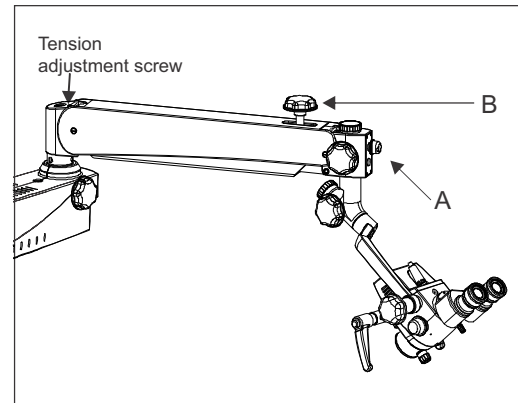

Fig. 12
Refer Fig. 12 to see the exact location of tension adjusting screw.
- 3 Lock the Up & Down movement of suspension arm using locking knob(B) in fig. 12 after focusing of the area of interest.
- 5 The illumination is controlled through the control knob (A), fig. 12. Rotate it clockwise or anti clock wise to achieve desired illumination level.